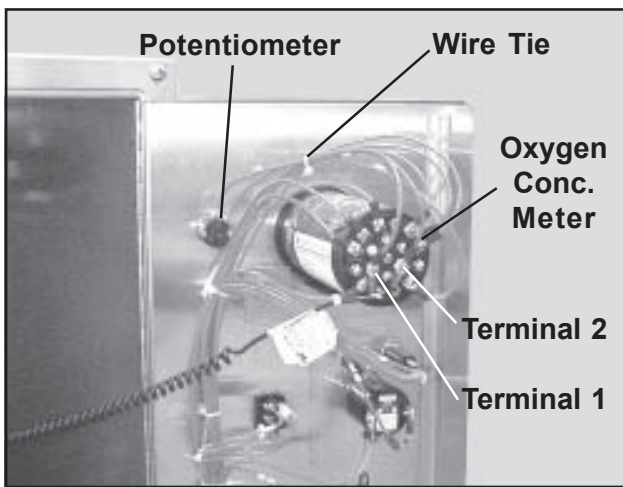

Figure 108. Rear View of Calibration Potentiometer
4. Two wires lead from the potentiometer to Terminals **1** and **2** on the oxygen concentration meter (Figure 108). Disconnect both wires from the meter. Do not disturb the other wires on the terminals.